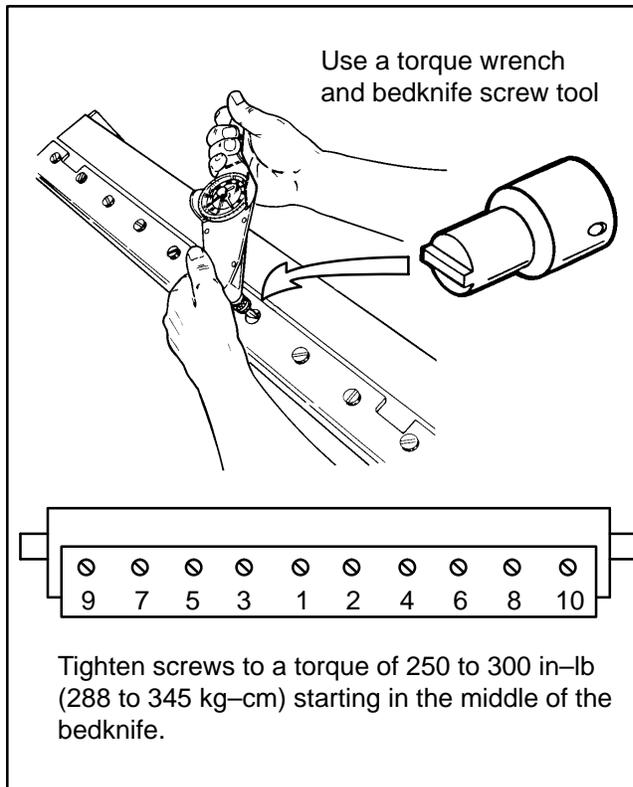
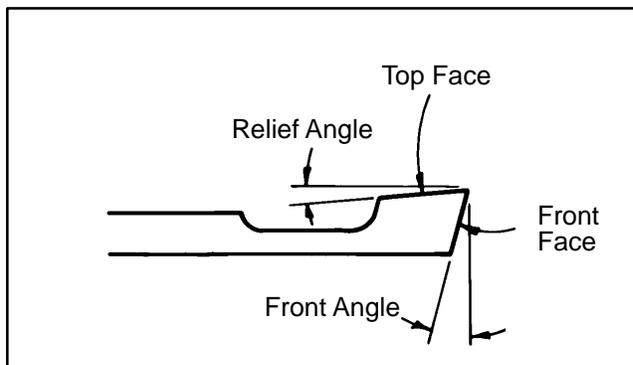

Figure 22
Figure 23
## Bedknife Replacement and Grinding (Fig. 22 and Fig. 23)
- C. Tighten screws to a torque of 250 to 300 in-lb (288 to 345 kg-cm) working from the center toward each end of the bedbar (Fig. 22).